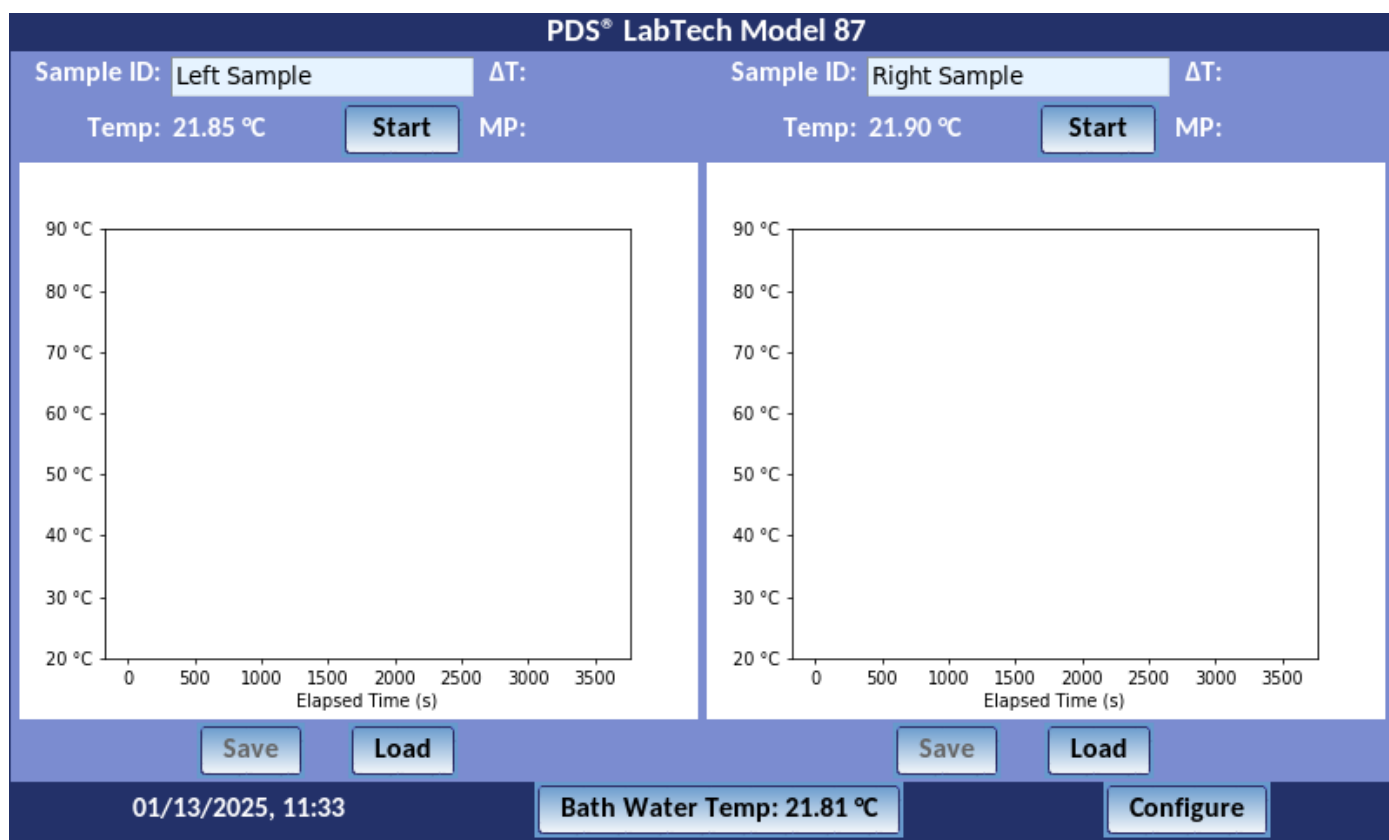

Figure 4: Main run screen showing both left and right cell data.
1. **Power-Up:** Press the Power On/Off Switch. The LED on the switch will blink a blue light slowly indicating that the instrument is in boot-up mode. The screen will display the PDS logo followed by several messages as the software is loading. Once the Power Switch LED is a solid blue and the main screen appears (see Figure 4) the instrument is ready to begin testing.